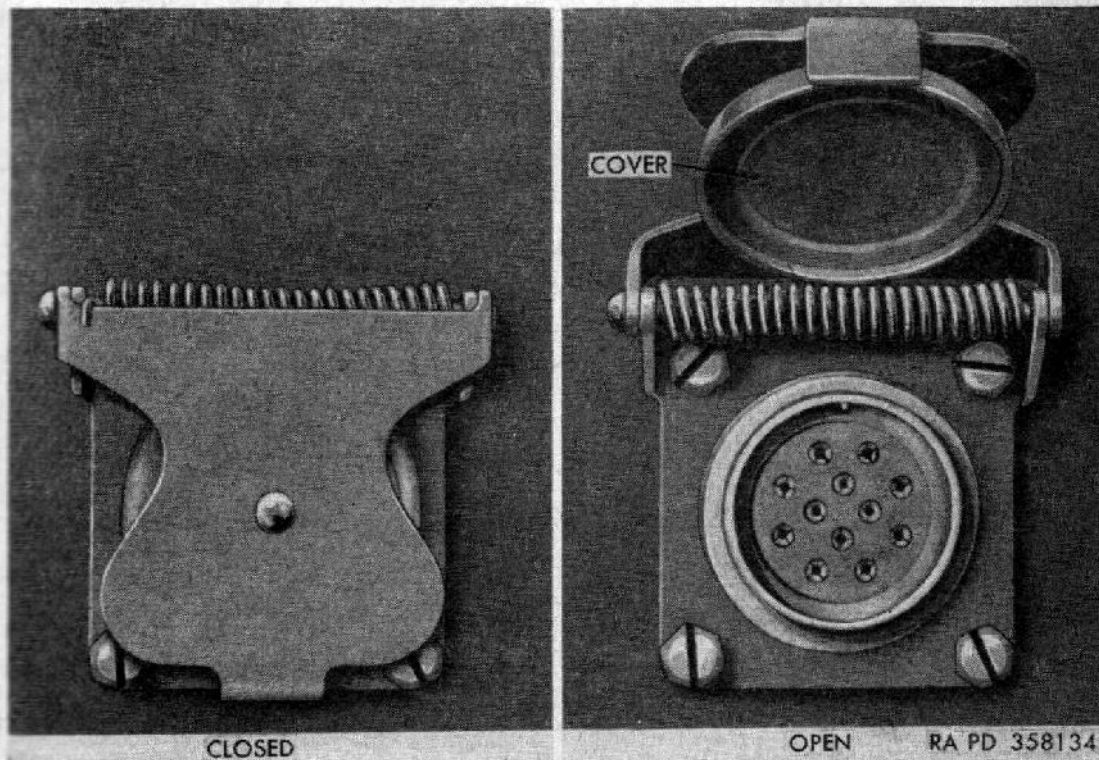

Figure 10. Trailer electric receptacle.
- (3) *Trailer electric receptacle* (fig. 10). The trailer electric receptacle located at the left corner of the body is interconnected with the light switch. The light switch positions control blackout and service lights on the trailer in the same manner as controlled on the vehicle ((1) (b) above). Lift